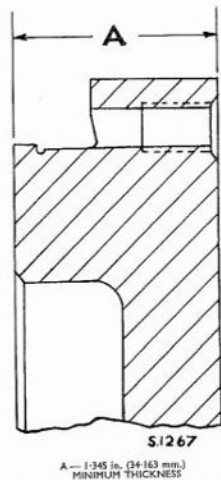

Fig. B.117. Flywheel re-grinding dimension
1. Examine the friction face on the flywheel, on which the clutch driven plate operates. If this is badly scored the face must be re-ground to restore the original smooth finish, but only until the original marks are removed. When carrying out this operation the whole of the flywheel face must be re-ground and not only the friction area. Reference must be made to Fig. B.117, whilst carrying out this re-grinding operation, for the minimum thickness on the flywheel of 1.345 in. (34.163 mm.) must not be exceeded.